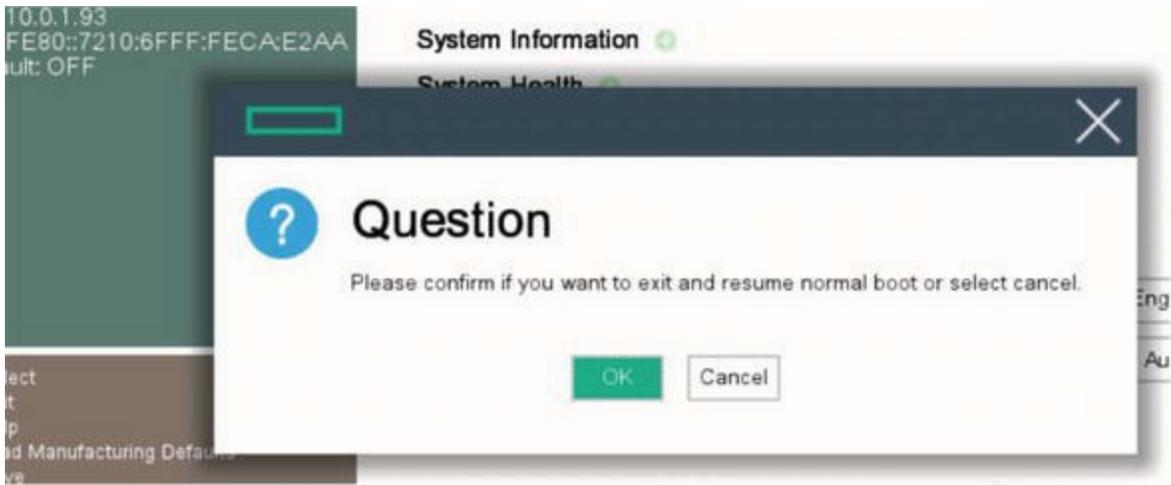

Figure 9-11 Click OK to confirm reboot
- **Click the Exit** button, in the pop-up shown in Figure 9-11 select **Cancel** or **OK** to reboot the system.